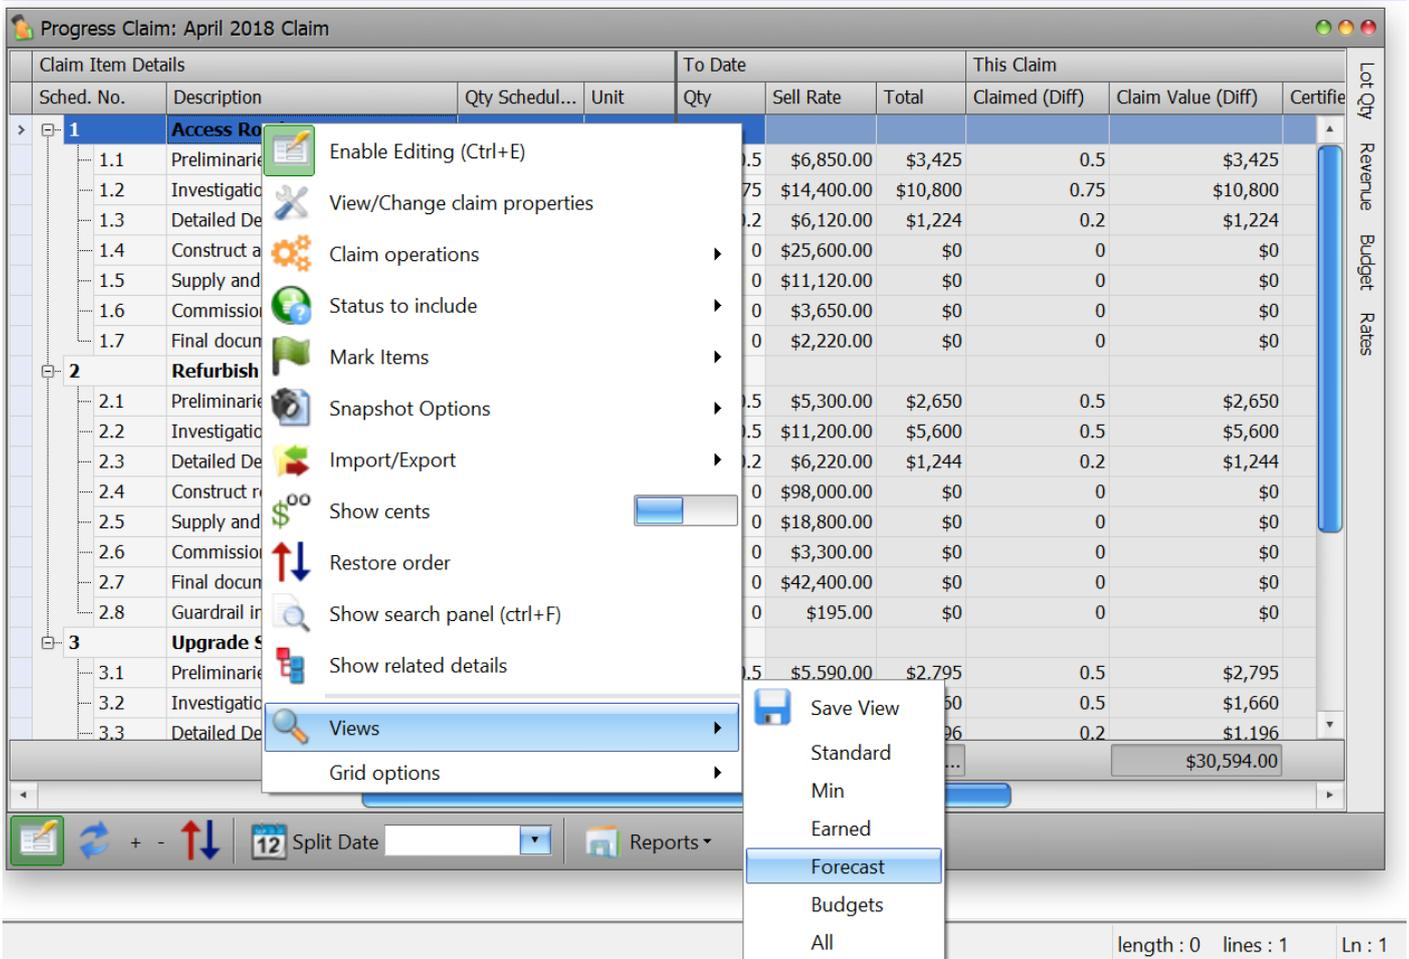

Figure 86 Accessing progress claim forecast view
1. Within the April claim details screen we are in, right click to bring up the Context Menu and select *Views=>Forecast* (Figure 86).